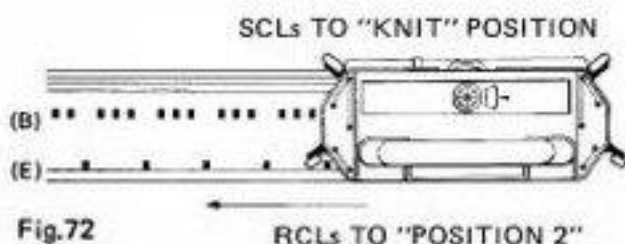

Fig.72
- Set both SCLs in "KNIT" position and at the same time set both RCLs at "Position 2". (Fig.72)
- With carriage on right. Using 3 x 1 selector plate, bring forward into position (E) from position (B) every 4th needle from right end. (Fig.72)